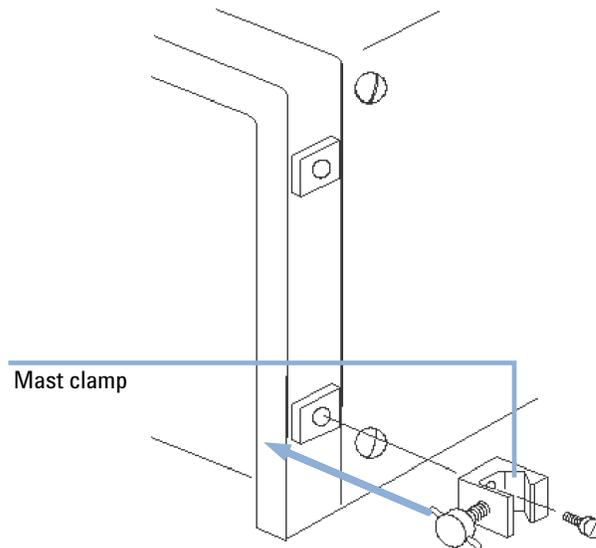

Figure 1 Mast clamp installation
- 2 Attach a mast clamp to the fittings at the front corner of the 210/218 pump or one at the lower front corner of the pump and one at the top front corner of the Agilent detector, if fitted, see Figure 1 on page 8.